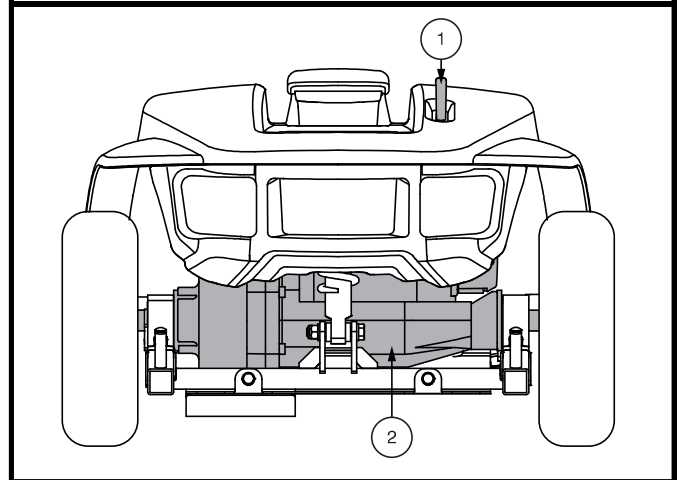

Figure 3. Rear Components
The manual freewheel lever and motor/transaxle assembly are located on your vehicle as shown. See figure 3.
1. Locate the levers on the rear section of the vehicle. See figure 3.